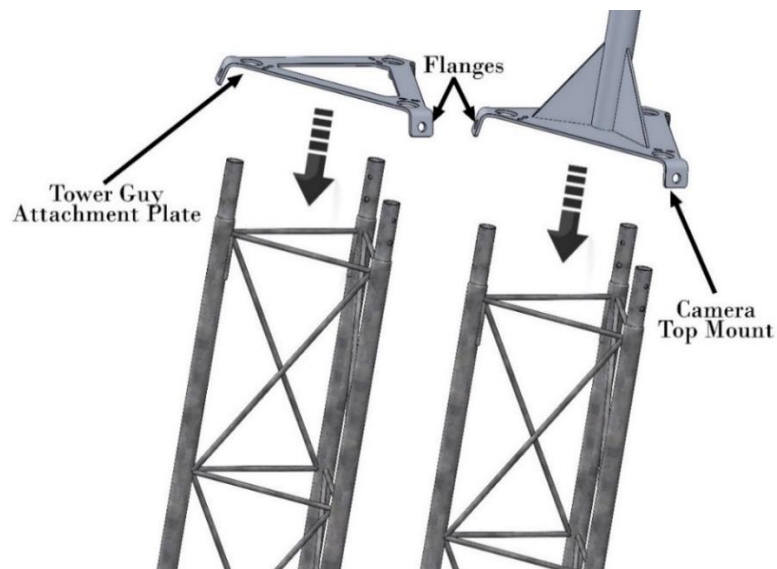

Figure 37 Tower Guy plate attachment plate / camera top mount plate assembly
4. Install the Tower Guy Attachment Plate onto the end of the first 20' tower section and the Camera Top Mount plate onto the end of the second 20' Kuva Tower section as per Figure 37.